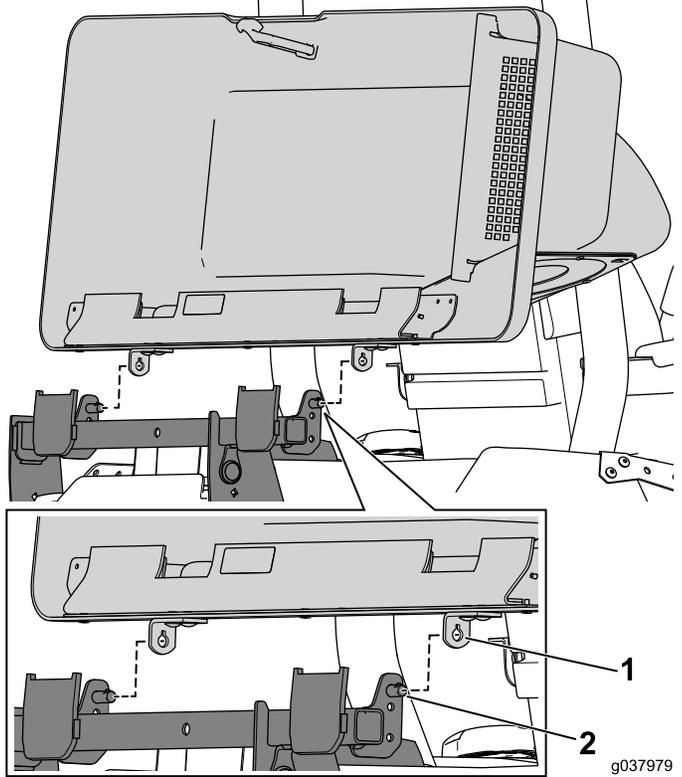

Figure 27
1. Align the key-hole feature on the pivot bracket to the key on the pivot pin and slide it into position (Figure 27).